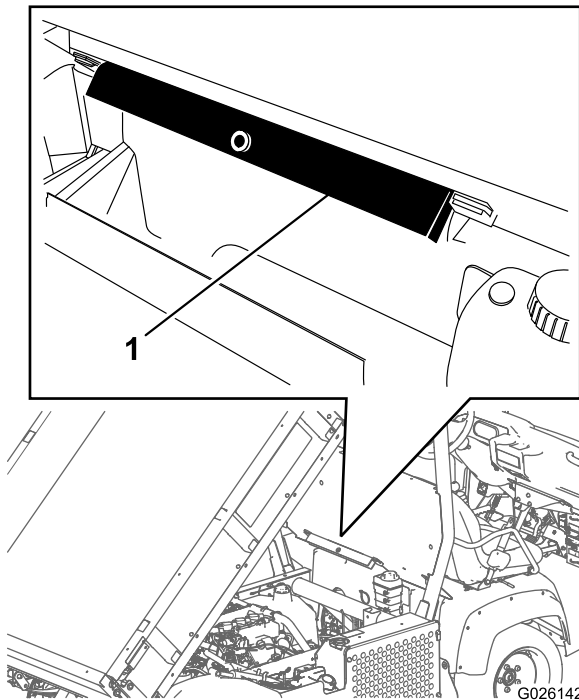

Figure 30
2. Remove the bed support from the storage brackets on back of the ROPS panel (Figure 30).